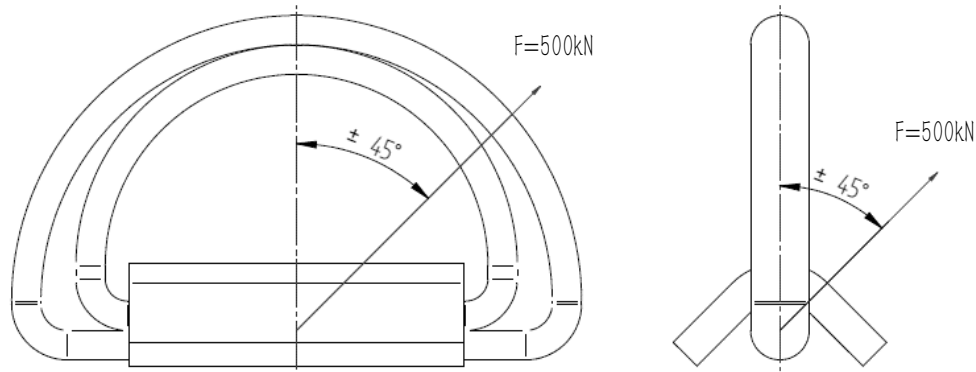

Fig. 5 D-ring operating range at 50t breaking load
The roll trailer is equipped with D-rings on its both side beams and both end beams. This element helps to secure trailer during its transport. Amount D-rings used depends from the load. Each D-ring has 50t braking load (BL) with $\pm 45^\circ$ angle force as shown on picture below (Fig. 5). Keep in mind that exceeding $\pm 45^\circ$ force angle affects on breaking load. Do not exceed the indicated load values and angles of force to avoid damage and accidents.